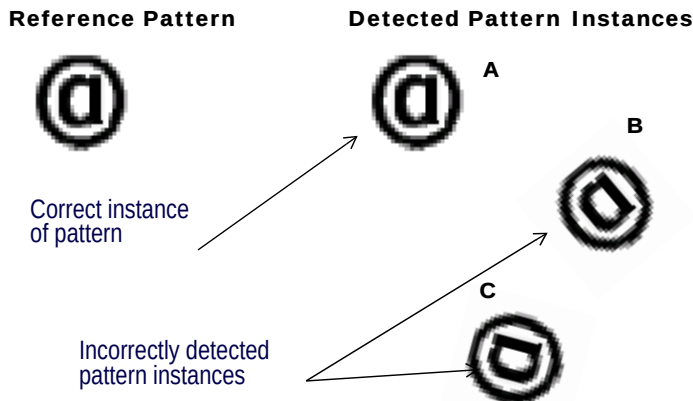

Figure 334 Detecting Symmetric Patterns
- For example, in Figure 334, a large part of the pattern consists of a circular, and thus symmetrical contour. Also, a large part of the inner “a” pattern can also be identified at any rotation. Because of this rotational symmetry, the Pattern Locator cannot disambiguate the various poses of the pattern.